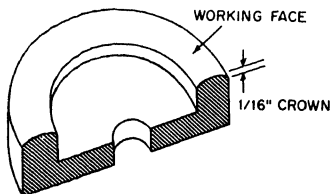

Figure 6-11.—Crown on the working face of a wheel for a carbide tool bit grinder.
Unlike the pedestal grinder where the grinding is done on the periphery of the wheel, the carbide tool bit grinder has the grinding done on the side of the wheel. The straight cup wheel (fig. 6-11) is similar to the wheels used on most carbide tool bit grinders. Some carbide tool grinders have a straight cup wheel on one side of the grinder and a straight wheel, such as the type used on a pedestal or bench grinder, on the other side.
- Dress the silicon carbide wheel with a star type wheel dresser. Form a 1/16-inch crown on the working face of the wheel to minimize the amount of contact between the tip and the wheel (fig. 6-11).